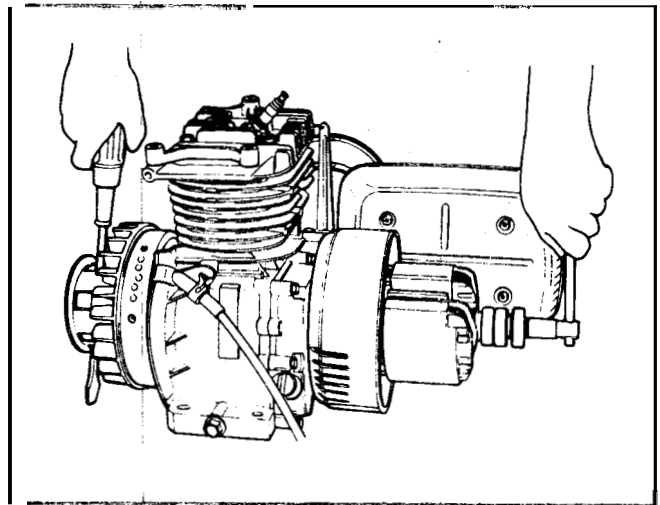

Figure 116
29. Install the rotor assembly. Some units use a key or pin to align the rotor to the crankshaft. Make sure the tapers are clean and that the rotor and crankshaft line up correctly. See Figure 116.